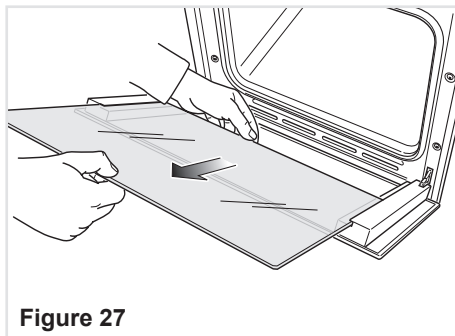

Figure 27
- Gently pull out the inner pane of glass (fig. 27).